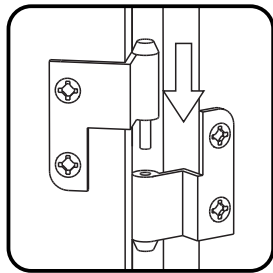

Figure 7
Attach Doors (Q) and (R) by sliding door hinges into side panel and middle panel hinges. (See Figure 7)